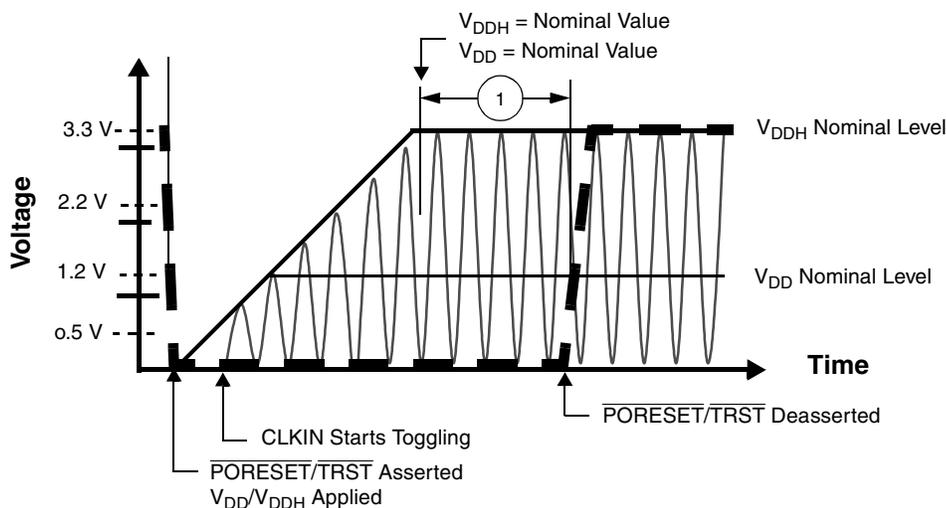
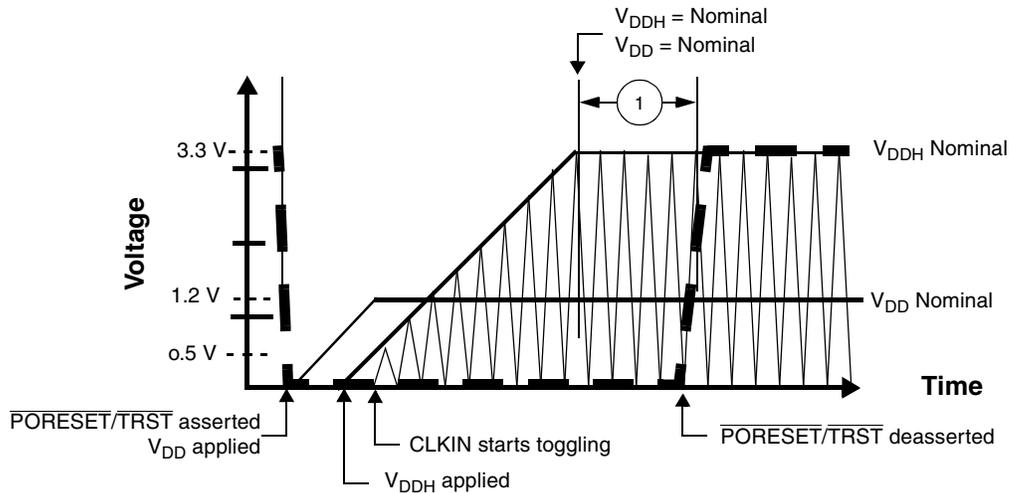

Figure 2-2. Start-Up Sequence with V_{DD} and V_{DDH} Raised Together
Figure 2-3. Start-Up Sequence with V_{DD} Raised Before V_{DDH} with CLKIN Started with V_{DDH}
- If possible, bring up the V_{DD} and V_{DDH} levels together. For designs with separate power supplies, bring up the V_{DD} levels and then the V_{DDH} levels (see **Figure 2-3**).
- CLKIN should start toggling at least 16 cycles (starting after V_{DDH} reaches its nominal level) before $\overline{\text{PORESET}}$ deassertion to guarantee correct device operation (see **Figure 2-2** and **Figure 2-3**).
The following figures show acceptable start-up sequence examples. **Figure 2-2** shows a sequence in which V_{DD} and V_{DDH} are raised together. **Figure 2-3** shows a sequence in which V_{DDH} is raised after V_{DD} and CLKIN begins to toggle as V_{DDH} rises.